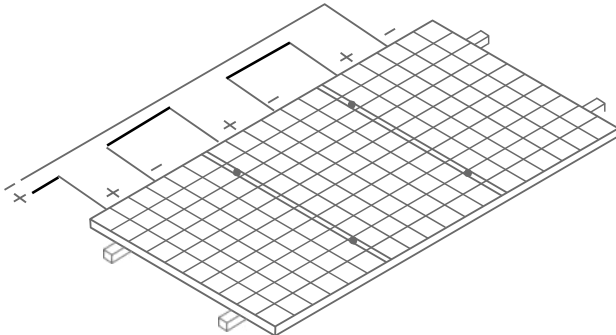

Figure 5. Connection in Series
- It is not allowed to use the Modules in different models in the same solar photovoltaic system. When the Modules are connected in series, the voltage of every string shall not be higher than the maximum voltage of the system (as shown in Figure 5). Reference equation of the maximum number of the Modules in serial connection: maximum system voltage of the module/ (1.25* open-circuit voltage), Please refer to the country's or local regulations for details.